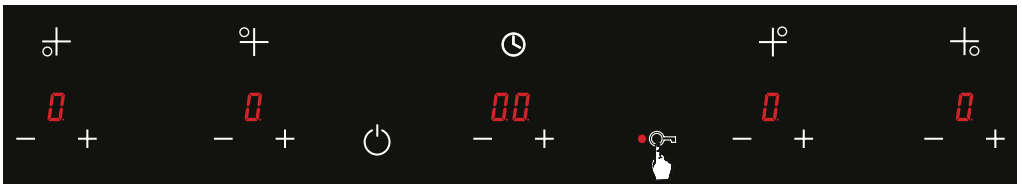

Figure 49
1. Child lock is activated by pressing the lock key ( ) once to prevent undesired operations. (See Fig. 49) The dot ( ● ) beside the lock symbol illuminates.